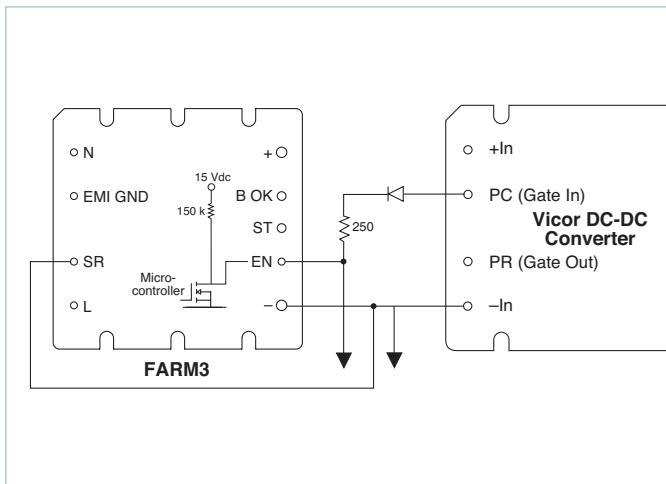

Figure 11 — Enable (EN) function
Enable (EN) Pin: The Enable pin must be connected to the PC or Gate-In pin of all converter modules to disable the converters during power-up. Otherwise, the converters would attempt to start while the hold-up capacitors are being charged through the current limiting thermistor, preventing the bus voltage from reaching the thermistor bypass threshold, thus disabling the power supply. The Enable output (the drain of an N channel MOSFET) is internally pulled up to 15V through a $150k\Omega$ resistor. (see Figure 11)